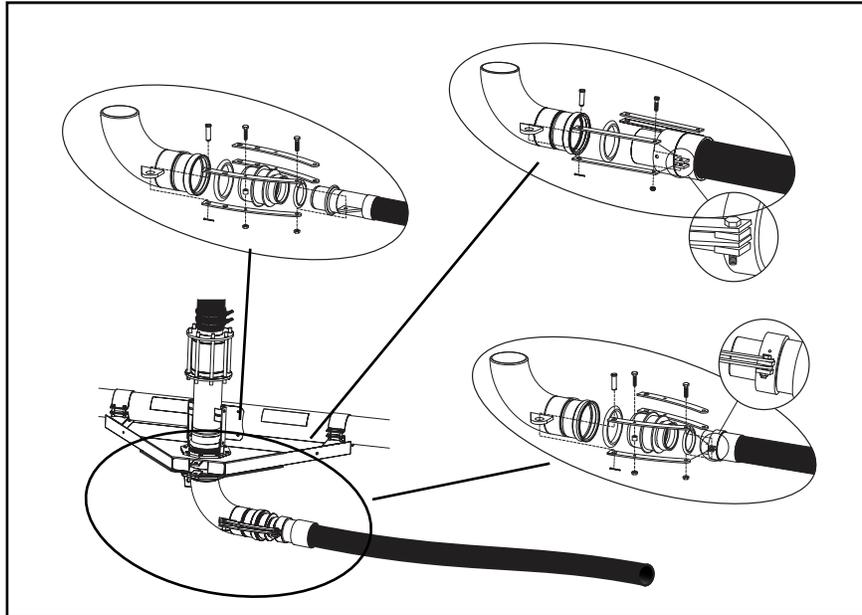

Figure 44-1 Swivel Inlet Hose Couplers
- Hose coupler design varies depending on the type and size of the hose. See Figures 44-1 and 44-2.
- Swivel inlet hose couplers are secured to the inlet with pull straps. See Figure 44-1.